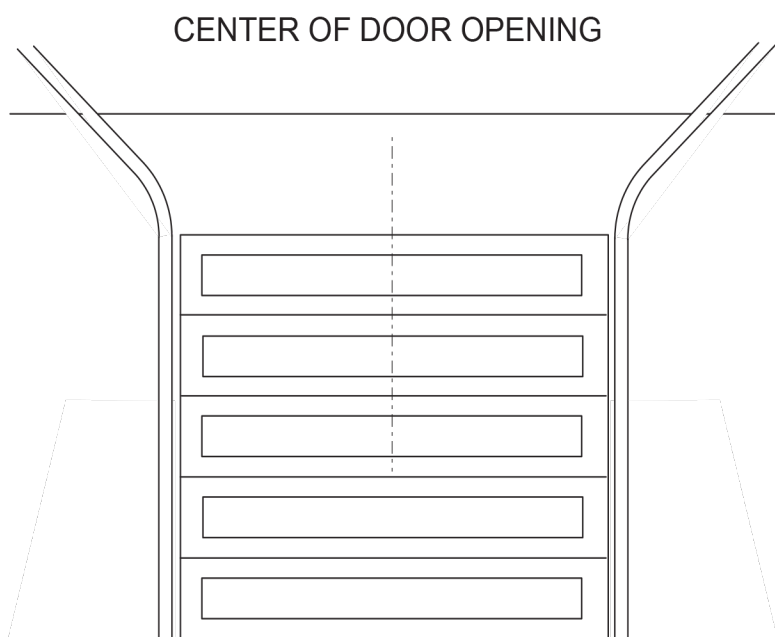
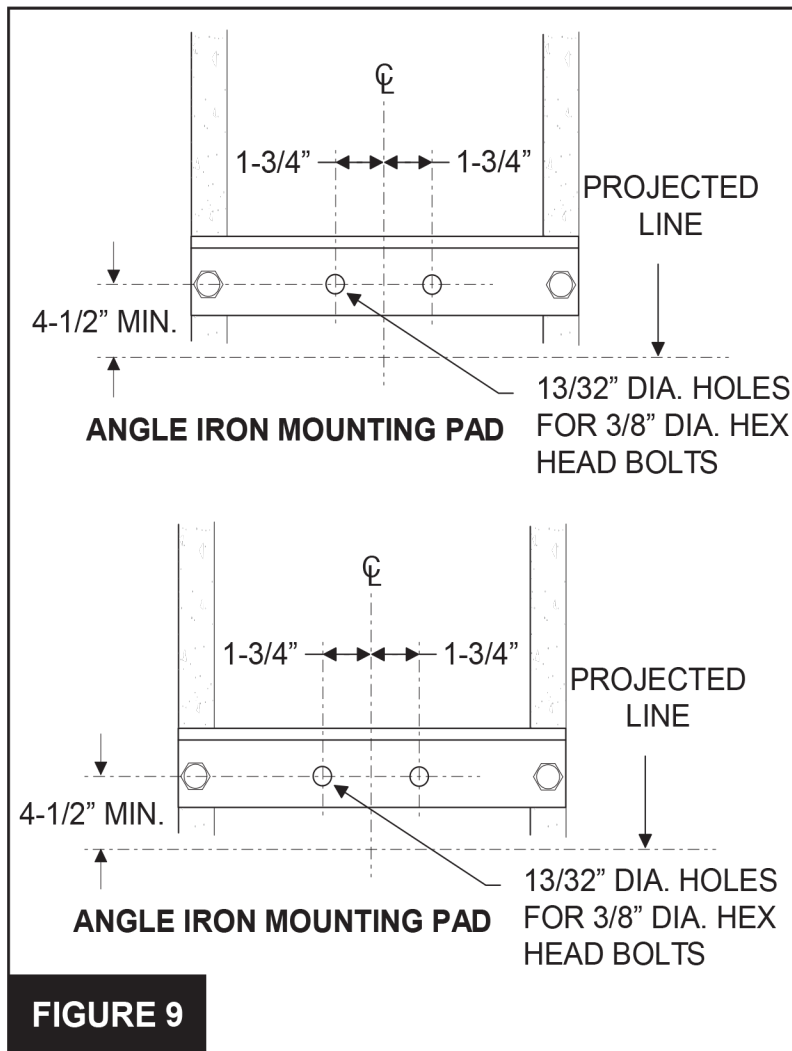

FIGURE 7
FIGURE 9
1. Locate the center of the door and mark a line on the wall directly above the door. Extend this line approximately 20" up the wall (See **Figure 7**).
3. Using the projected lines for location, mount a suitable wood block or angle iron – depending on the structure of the building – to the wall above the door opening as shown in **Figure 7**. Ensure the block or angle iron used will provide a sound and secure mounting pad for the operator track front mounting bracket (See Warning below). Drill the required holes for mounting the operator track front mounting bracket as shown in **Figure 9**.
NOTE: All T operators are pre-wired to accept reversing edge components. To comply with UL requirements, one of these systems must be installed and wired to the operator. Refer to **Figures 9 and 10** for Edge Component Wiring and Installation.